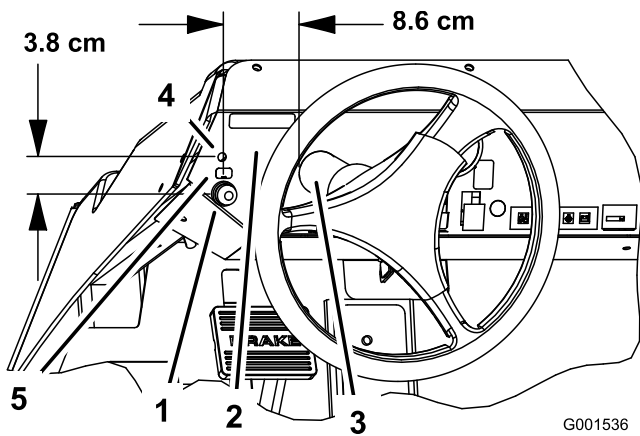

Figure 3
4. To locate the hole for the horn button, measure 8.6 cm (3-3/8 inches) to the left of the steering column base and 3.8 cm (1-1/2 inches) from the center of the dash screw head (Figure 3).
- 2. Remove the backing of the new decal and place just above the horn button on the dash (Figure 3).